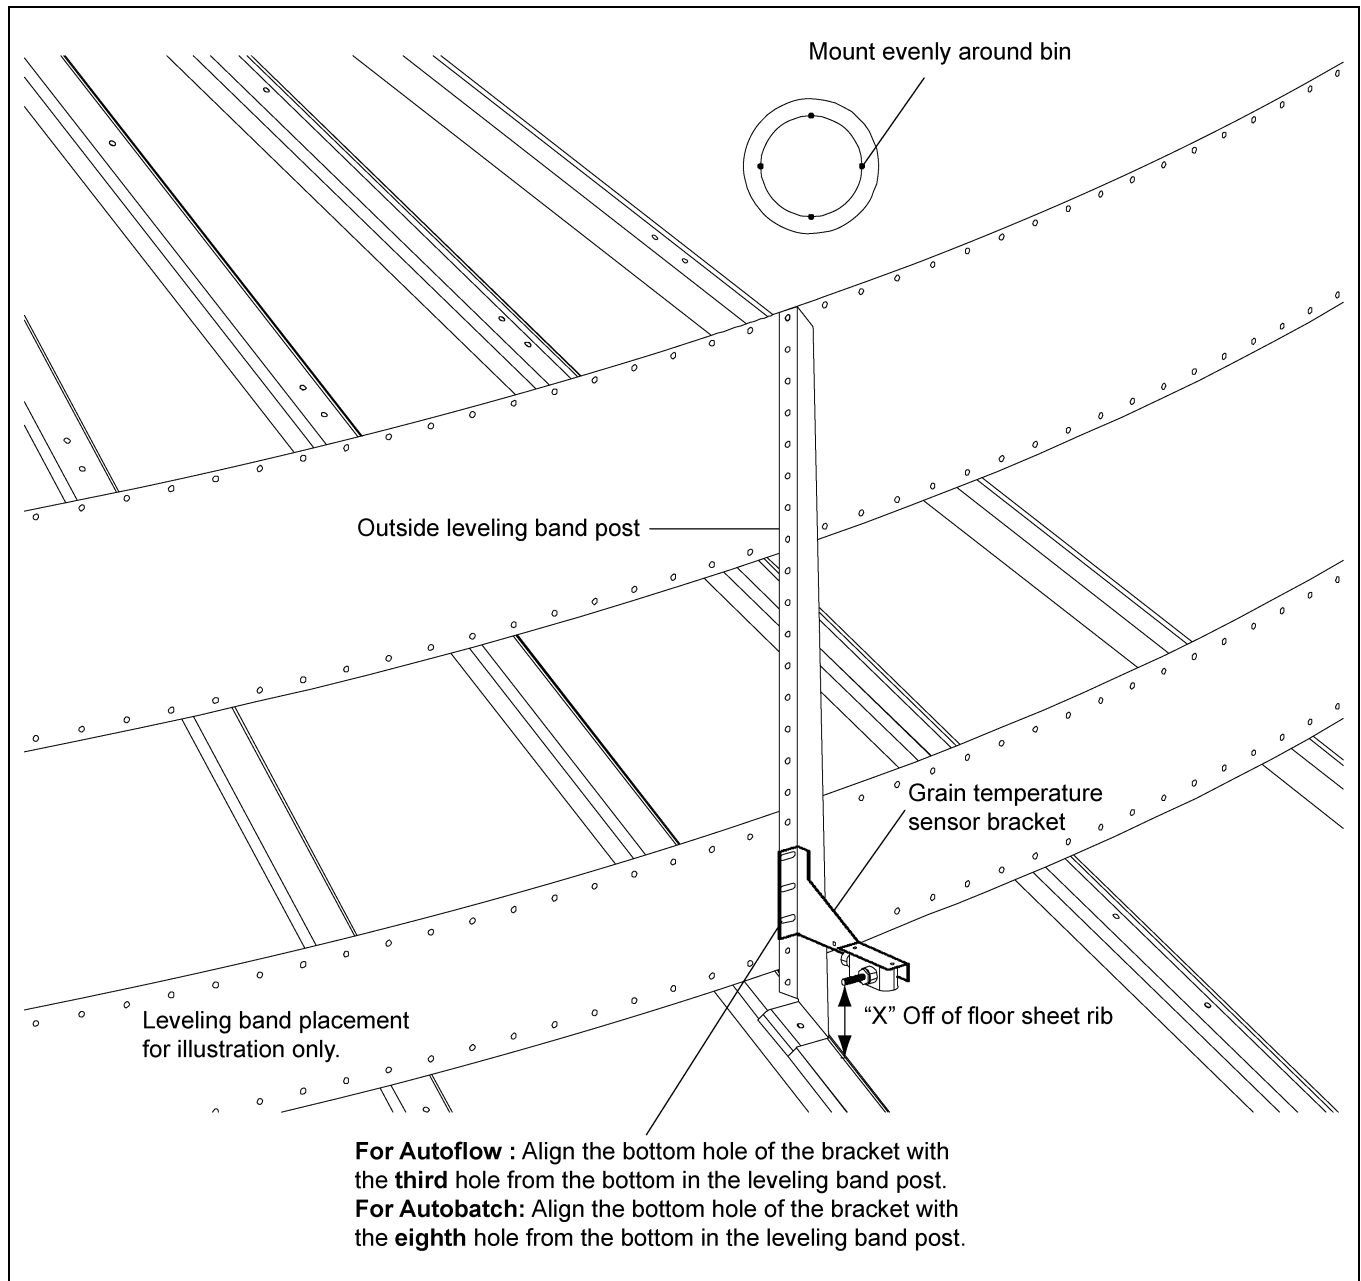

Figure 3K Illustration of grain temperature sensor mounted on outside leveling band post.
1. Remove the two (2) wires attached to the grain temperature sensor connected to terminal #22 and terminal #23 in the fan control box.
2. Mount the four (4) grain temperature sensor brackets evenly around the drying chamber on outside leveling band posts. (See Figure 3K on Page 25.)